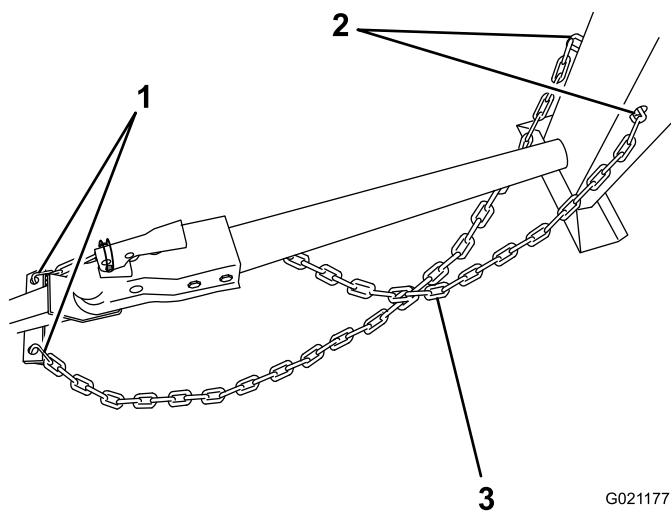

Figure 18
1. Pull the safety chain through the slots in the keyholes located in the front post of the machine, so that there is just enough slack on each side for turning around corners when towing the machine (Figure 18).